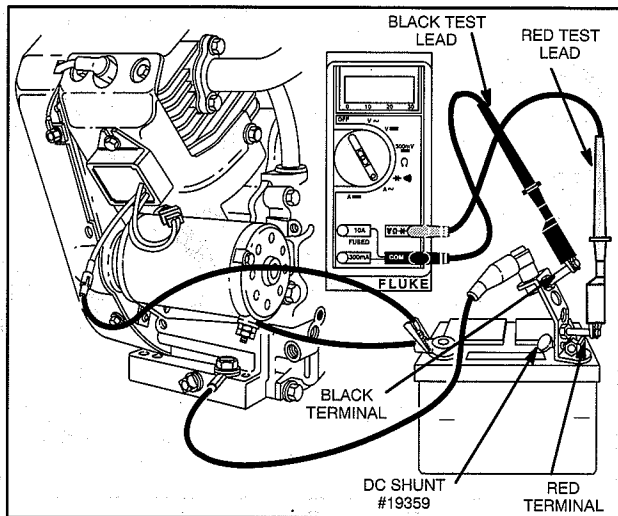

Fig. 24 - Testing Regulator-Rectifier 16 Amp System With DC Shunt
The DC Shunt **must** be installed on the **negative** (-) terminal of the battery, Fig. 24. All connections must be clean and tight for correct amperage readings.
2. Insert RED test lead into $V\Omega$ receptacle in meter and connect to RED post terminal on shunt, Fig. 24.